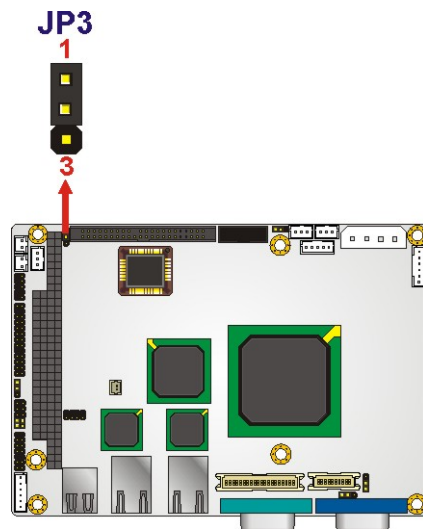

Figure 5-2: AT Power Select Jumper Location
- Jumper Location:** See Figure 5-2
The location of the AT Power Select jumper is shown in Figure 5-2 below.